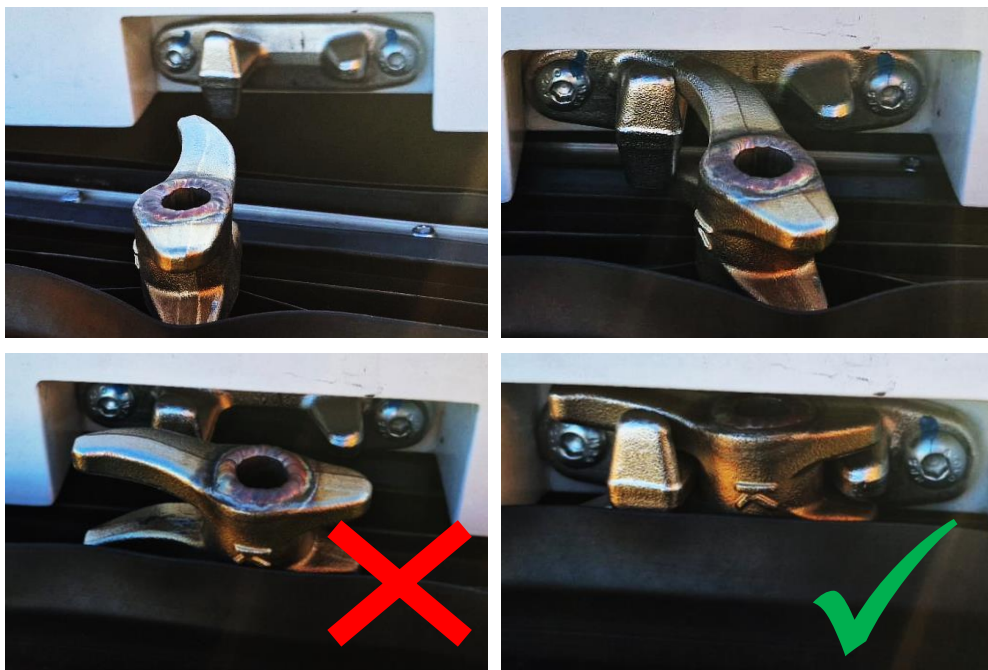

Figure 22 – Correct position of the two door cams.
2. When the door seal touches the structure, make sure the two cams hooks the keeper (Figure 22);